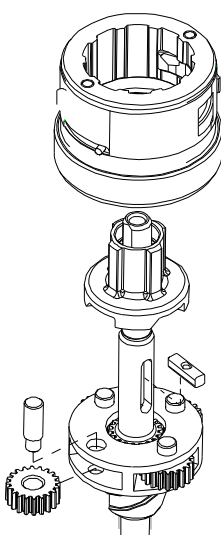

Fig. 3
6. (See fig. 3). Lift off gear ring assembly, clutch and axle key. Remove planet pinion pins and axle key. Remove axle from vice.
2. (See Fig. 3). Clamp left hand end of axle in vice and fit the planet pinions and pins vertical), clutch and gearing assembly.